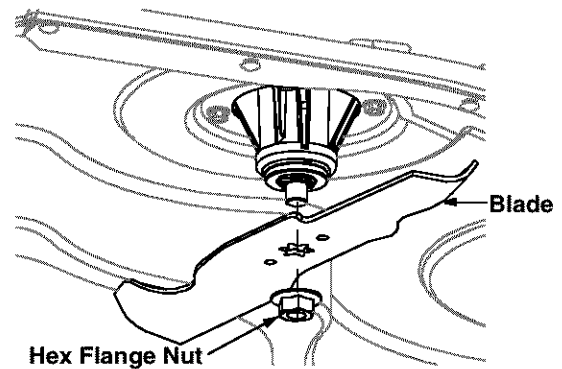

Figure 27
- Remove the hex flange nut that holds the blade to the blade spindle. See Figure 27.